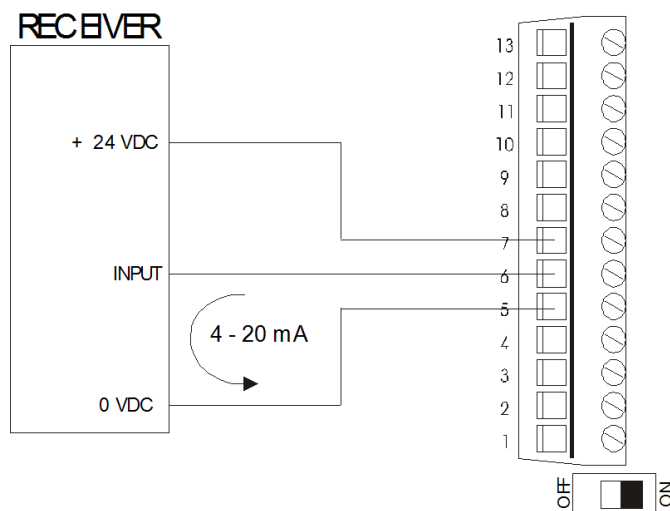
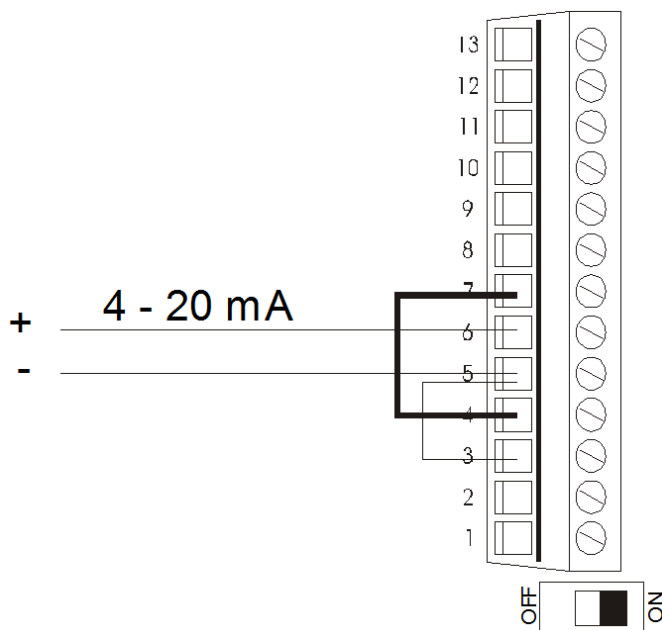

FIG:30-1
FIG:30-2
30.2.3 Wiring of the (0)4-20 mA Current Loop Output:
FIG:30-1 is an illustration of how to connect an external receiver to the (0)4-20 mA Current Loop output whilst using an external power supply.
FIG:30-2 is an illustration of how to connect an external receiver to the (0)4-20 mA Current Loop output whilst using an internal power supply for the (0)4-20 mA Current Loop output.
Note: Always use the connection shown in FIG:30-1 when possible. The connection shown in FIG:30-2 should only be used when DC supply voltage is unavailable from the receiver.